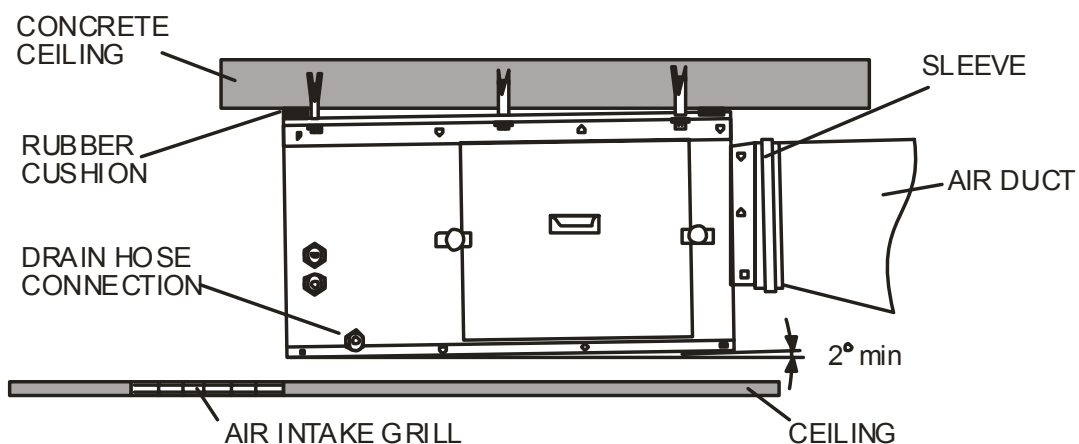

Fig. 6-6
- See Figure 6-6 for general guidelines.